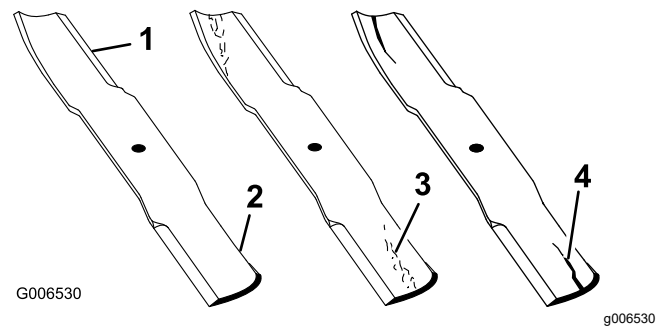

Figure 80
1. Inspect the cutting edges (Figure 80).
4. If you notice any cracks, wear, or a slot forming in this area, immediately install a new blade (Figure 80).